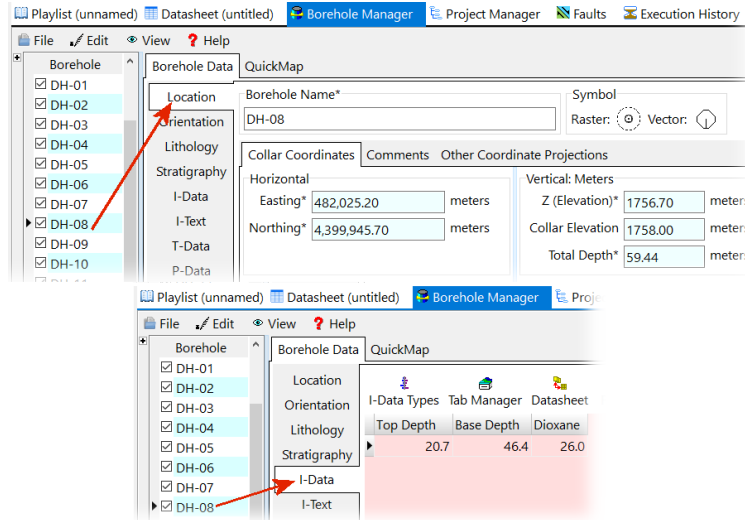

Figure 50
- Peruse the *Borehole Manager* (Figure 50) and notice how the well *Locations* and *I-Data* tabs have been populated with the data from the Excel file.